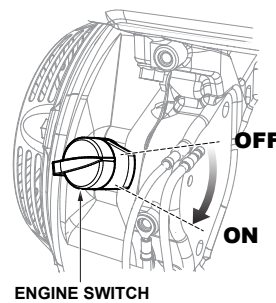

Figure 20. Engine On/Off Switch
4. Turn the engine switch (Figure 20) to the **ON** position.